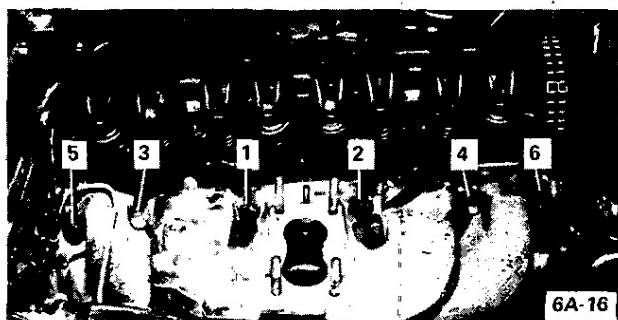

Figure 6A-16 Manifold Bolt Tightening Sequence
3. When installing the manifold, start with the No. 1 and No. 2 bolts. See Figure 6A-16. Gradually tighten both bolts until snug. Then continue with the rest of the bolts in the sequence illustrated in Figure 6A-16. Torque bolts to 33 lb. ft.